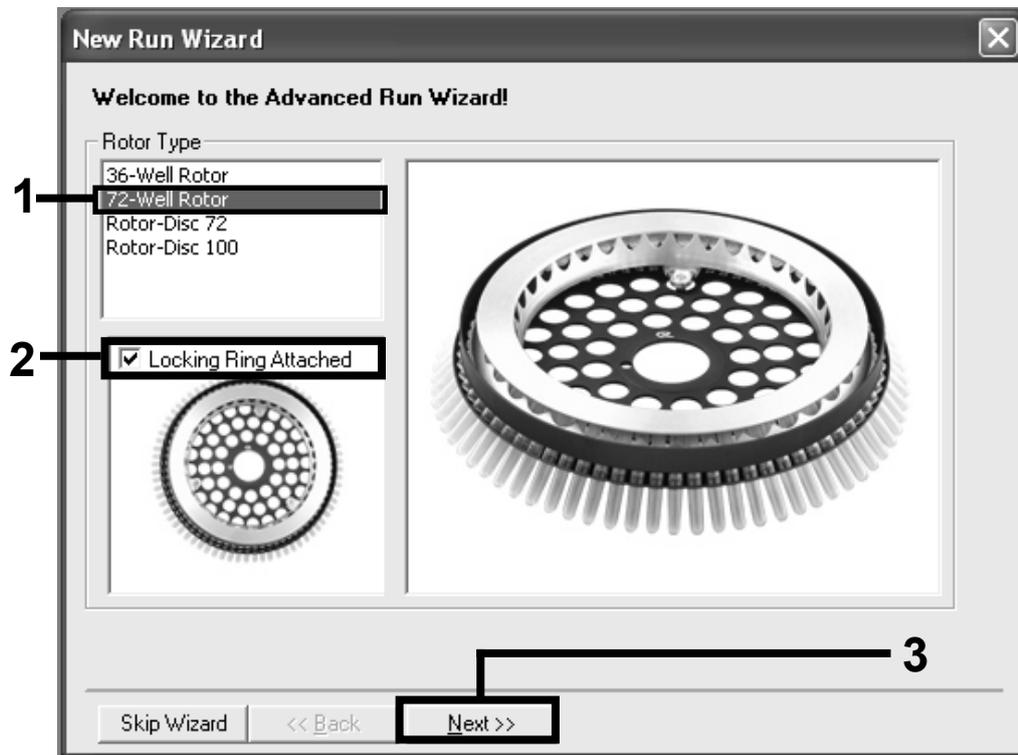

Figure 1. The “New Run Wizard” dialog box.
Setting the general assay parameters	Figures 1–3
8. Select 72-Well Rotor as the rotor type. Confirm that the locking ring is attached, and check the “Locking Ring Attached” box. Click “Next” (Figure 1).